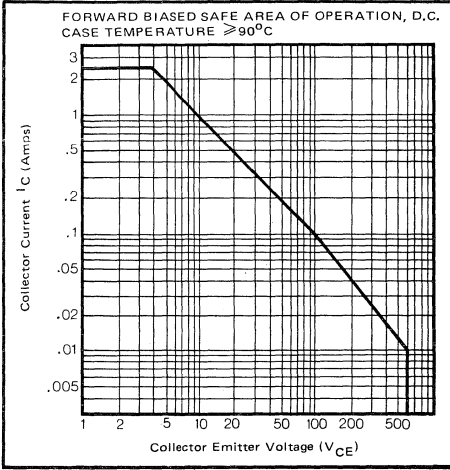
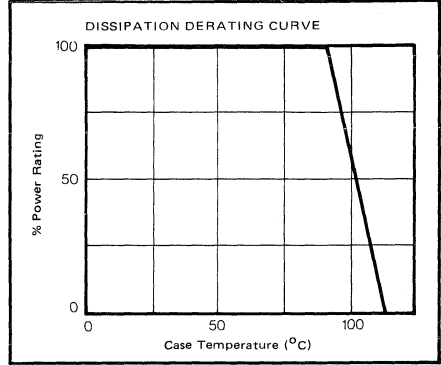

Fig.3
Fig.4
2. Refer to Figs 3, 4.
The graph on figure 3 is with a case temperature held at 90°C . For operation at case temperatures above 90°C derate the value of current indicated in figure 3 by the power derating factor, determined from figure 4.